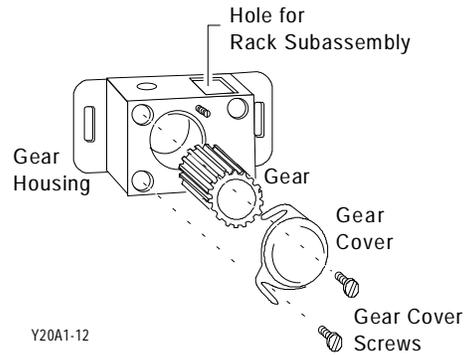

Figure 12: Gear Housing Assembly
3. Replace the gear cover and tighten the gear cover screws. See Figure 12.